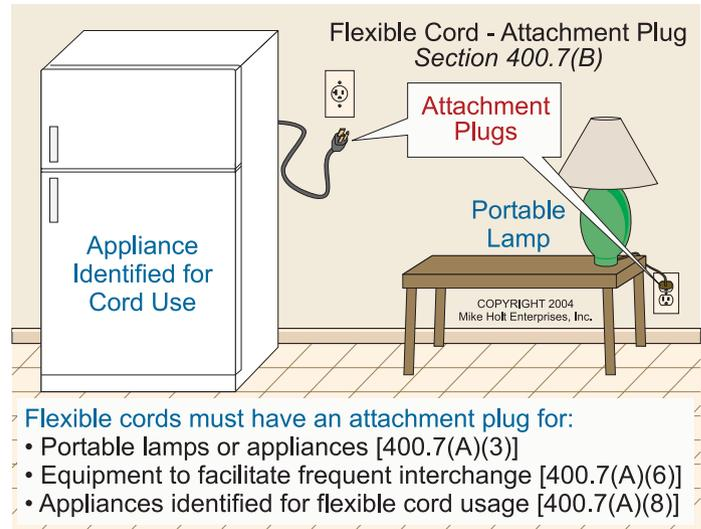

Figure 400-3
(9) Connection of moving parts.
(10) Where specifically permitted elsewhere in this Code.
**AUTHOR'S COMMENT:** Flexible cords and flexible cables are permitted for fixed permanent wiring by 501.10(A)(2) and (B)(2), 501.140, 502.4(A)(1)(e), 502.4(B)(2), 503.3(A)(2), 550.10(B), 553.7(B), and 555.13(A)(2).
**(B) Attachment Plugs.** Attachment plugs are required for flexible cords used for any of the following applications: **Figure 400-3**
(1) Used as a substitute for the fixed wiring of a structure.